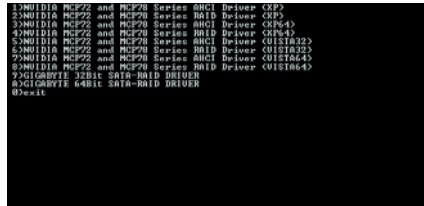

Figure 2
Step 2: When the controller menu (Figure 2) appears, remove the startup disk and insert the blank formatted disk. Select the controller driver by pressing the corresponding letter from the menu. For example, in the menu in Figure 2,
- In RAID mode, select **2) NVIDIA MCP72 and MCP78 Series RAID Driver (XP)** for Windows XP 32-bit operating system or **4) NVIDIA MCP72 and MCP78 Series RAID Driver (XP64)** for Windows XP 64-bit.
- In AHCI mode, select **1) NVIDIA MCP72 and MCP78 Series AHCI Driver (XP)** for Windows XP 32-bit operating system or **D) NVIDIA MCP72 and MCP78 Series AHCI Driver (XP64)** for Windows XP 64-bit.
Use an alternative system and insert the motherboard driver disk. From your optical drive folder, double click the **MENU.exe** file in the **BootDrv** folder (Figure 3). A command prompt window will open similar to that in Figure 2.